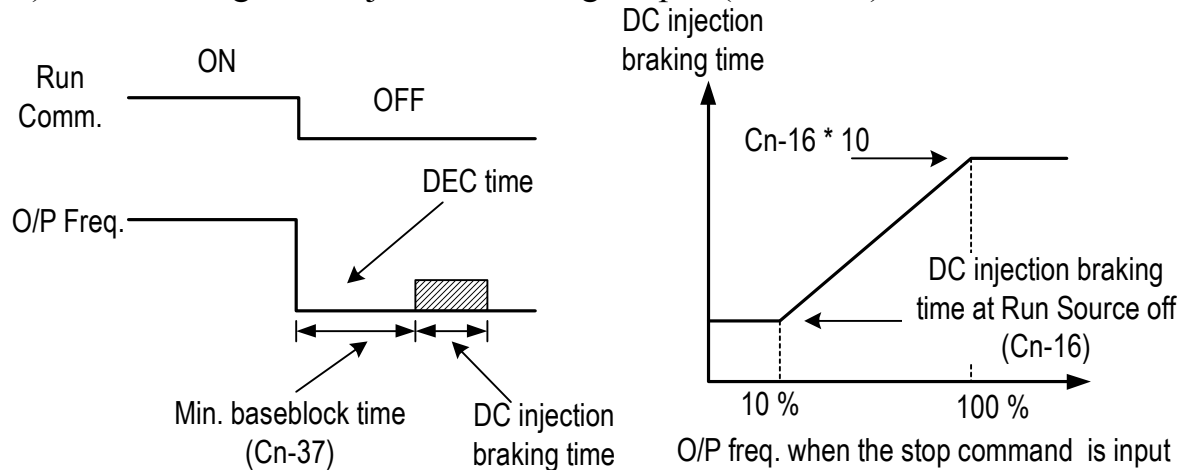

Fig. 31. Whole range DC Injecting Braking Stop
- The DC injection braking time depends upon the output frequency when the stop command is input and the “DC injection time at stop” setting (Cn-16) as shown in Fig. 31.
- Lengthen the minimum baseblock time (Cn-37) when an overcurrent (OC) occurs during stopping. When the power to an induction motor is turned OFF, the counter-electromotive force generated by the residual magnetic field in the motor can cause an overcurrent to be detected when DC injection braking stop is applied.